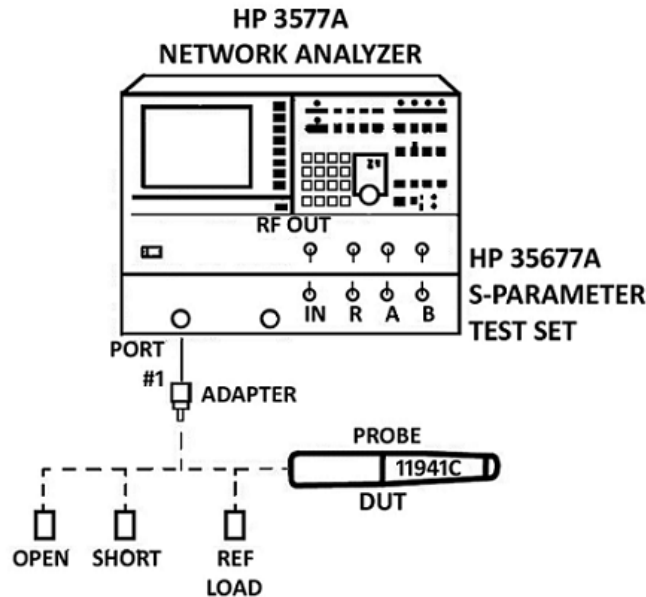

Figure 9. Output Impedance Test Setup
1. Connect the equipment as shown in Figure 9. Allow the HP 3577A 60 minutes of warm-up time.